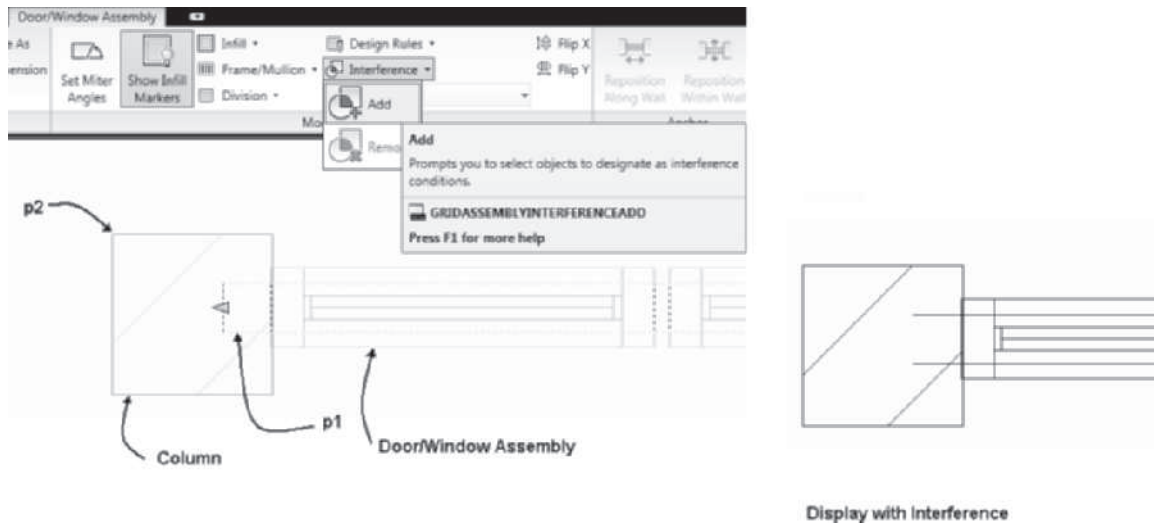

FIGURE 6.35 Applying interference to the door/window assembly unit
- 1. Select a door/window assembly at **p1** as shown in Figure 6.35, and choose Add from the **Interference** flyout menu in the Modify panel.
(Interference applied as shown in Figure 6.35.)
The **Interference > Remove** command on the shortcut menu will remove the interference between AEC objects. When the interference is removed, the assembly or curtain wall will overlap the column as shown in Figure 6.35. Access the **Interference > Remove** command as shown in Table 6.16.